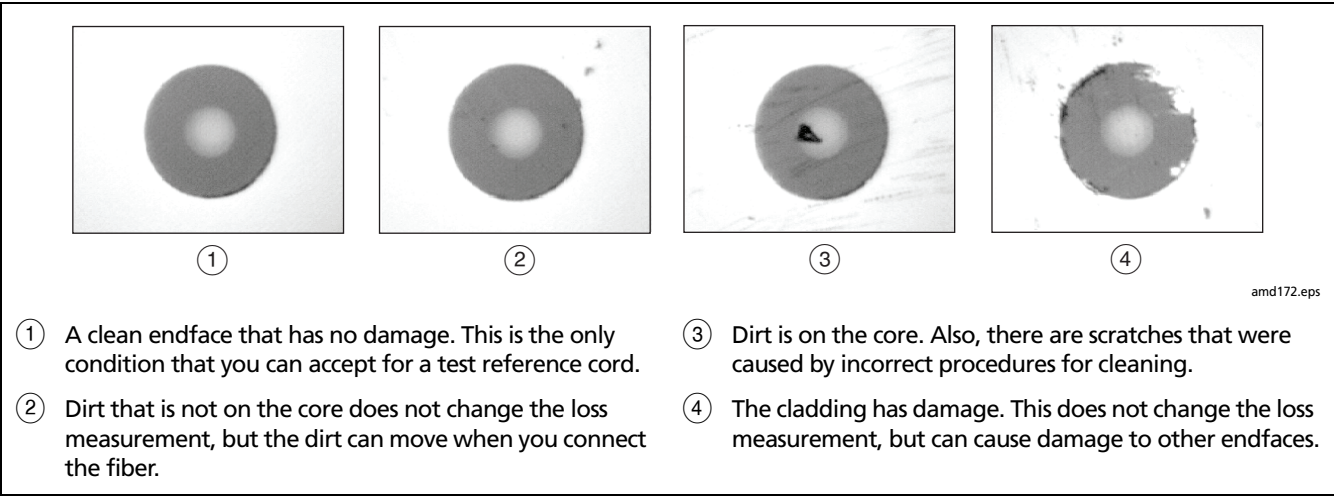

Figure A-2. Examples of Fiber Endfaces
**To do this procedure, you must have a fiber microscope. You cannot be sure that your cords are good unless you can examine the endfaces on the connectors. An endface that is dirty or has damage can give a good loss measurement, but can cause problems later. See Figure A-2.**
1-2 After you clean an endface, use a fiber microscope to examine the endface. Figure A-2 shows examples of what you can see with a fiber microscope.